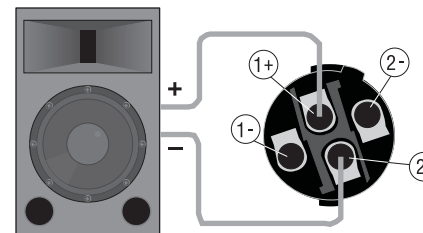

Figure 2.14
- 1) Wire the speaker across the red binding post of each channel (Figure 2.14). Do not use the black binding posts when operating in Bridge-Mono mode.
- 2) Wire the speaker only to the top Speakon® connector as shown in Table 3 and Figure 2.14.